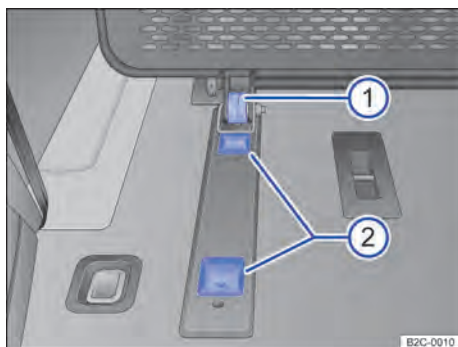

Fig. 155 In the luggage compartment: lower anchor point.
2. Push the bottom of the adjustable partition on the roller → Fig. 155 ① into the rear depression in the anchor point ②.
2. Push the bottom of the adjustable partition on the roller → Fig. 155 ① into the front depression of the anchor point → Fig. 155 ②.